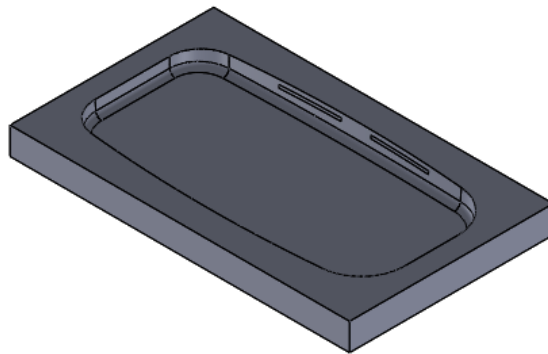

Figure 21-61 *Cavity plate displayed after hiding the cover*
- g. Extract the cavity, refer to Figure 21-61.
8. Add the remaining features to create the final cavity plate, refer to Figure 21-61.